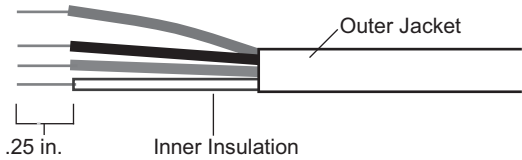

Fig. 13 — Rnet Cable Wire
- Strip about 1/4 in. of the inner insulation from each wire (see Fig. 13).